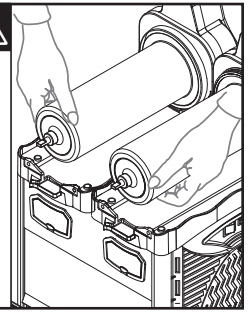

Fig. 16
1. Place the Bowl Gasket at the bottom of the Cylinder Evaporator, lubricating the upper part (A). (Fig. 16)